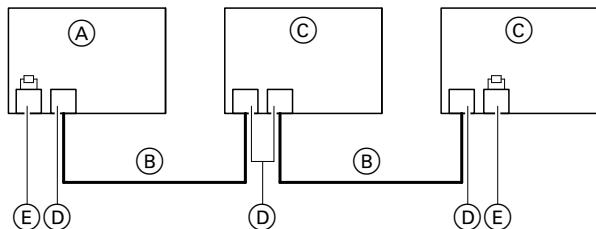

Fig. 51
- The appliance CAN bus is designed for "line" bus topology with a terminator at both ends: See Fig. 51.